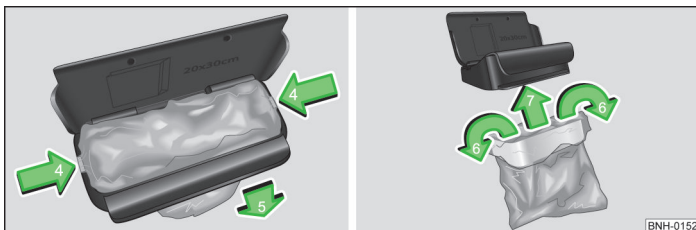

Fig. 4 Replace bags
- Push the two catches of the inner frame in direction of arrow 4 » Fig. 4 out of the container body.